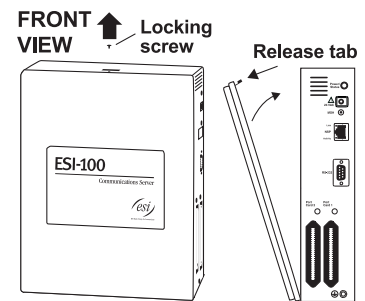

Figure C-1 (ESI-100 shown)
1. Remove the locking screw (at the top of the cabinet, securing the cover), and then remove the top cover by pressing down the locking tab and pulling the top cover forward (**Fig. C-1**).